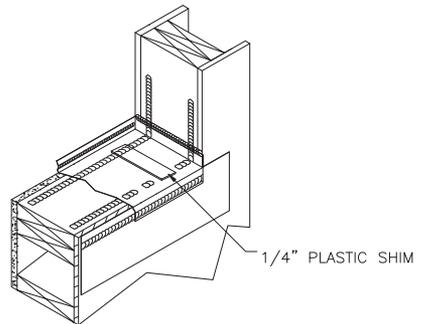

Figure 5
5. Once in place, apply a bead of sealant across the vertical back leg of the sill pan. The bead should be continuous and extend the entire length of the sill pan. A discontinuous bead should then be applied near the exterior edge of the sill pan. Complete the sealant application by applying a bead along the top lip of the sill pan end to seal between the pan and the rough framing (see figure 5).
6. Prior to setting the door into the sill pan, place 1/4" non-compressible, plastic shims onto the sill pan as shown (see figure 5). Space shims 1 to 2 inches from each end and then approximately every 12 inches thereafter.